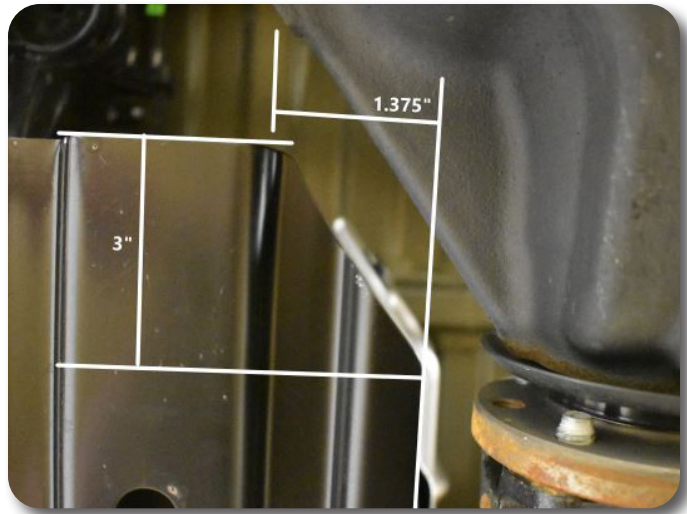

Figure 7
14. The second trim will be for clearance to the differential housing. On the rear inside corner of the skid plate, mark a point on the inside edge 3" from the back edge of the skid plate, and another point on the back edge 1- $\frac{3}{8}$ " from the inside edge of the skid plate. Cut a straight line connecting these two points to create the clearance as shown below **Figure 7** .